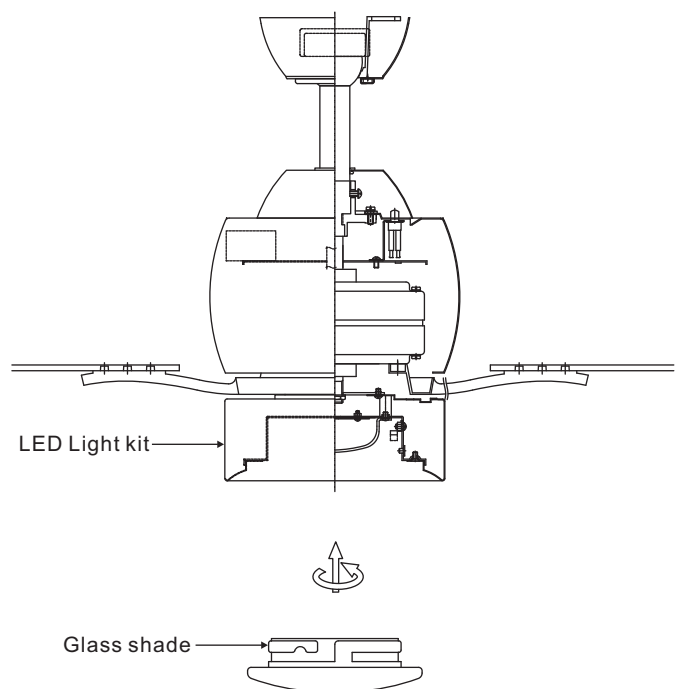

Figure 16
Step 2. While holding the LED light kit under your fan, make the polarized plug connections: (Fig. 16)
1. Raise glass shade up against the LED light kit and secure it to fan by turning glass clockwise until snug. **DO NOT OVERTIGHTEN.** (Fig. 16)